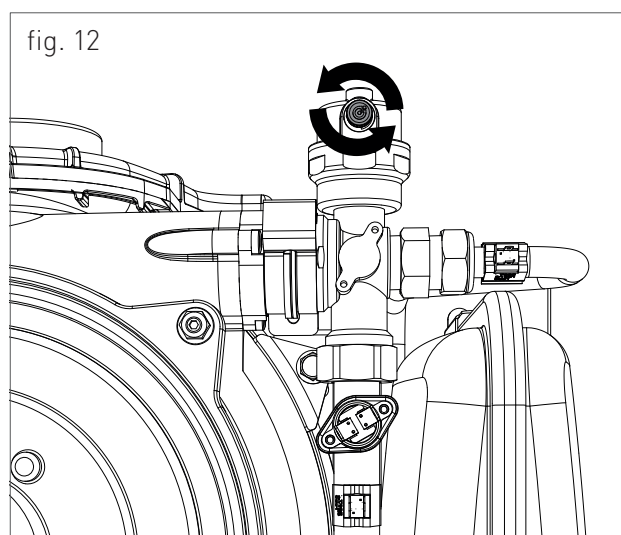

fig. 12
3. Slightly loosen the cap of the air eliminator placed on the top of the condensing block (fig. 12) to release the air from the top of the system;
9. open the air relief valves of the radiators and check the air removal process. **WHEN THE WATER COMES OUT, CLOSE THE RADIATOR AIR VENT VALVES AND THE AIR VENT VALVE LOCATED IN THE UPPER RIGHT PART OF THE CONDENSING EXCHANGER (FIG. 12).**